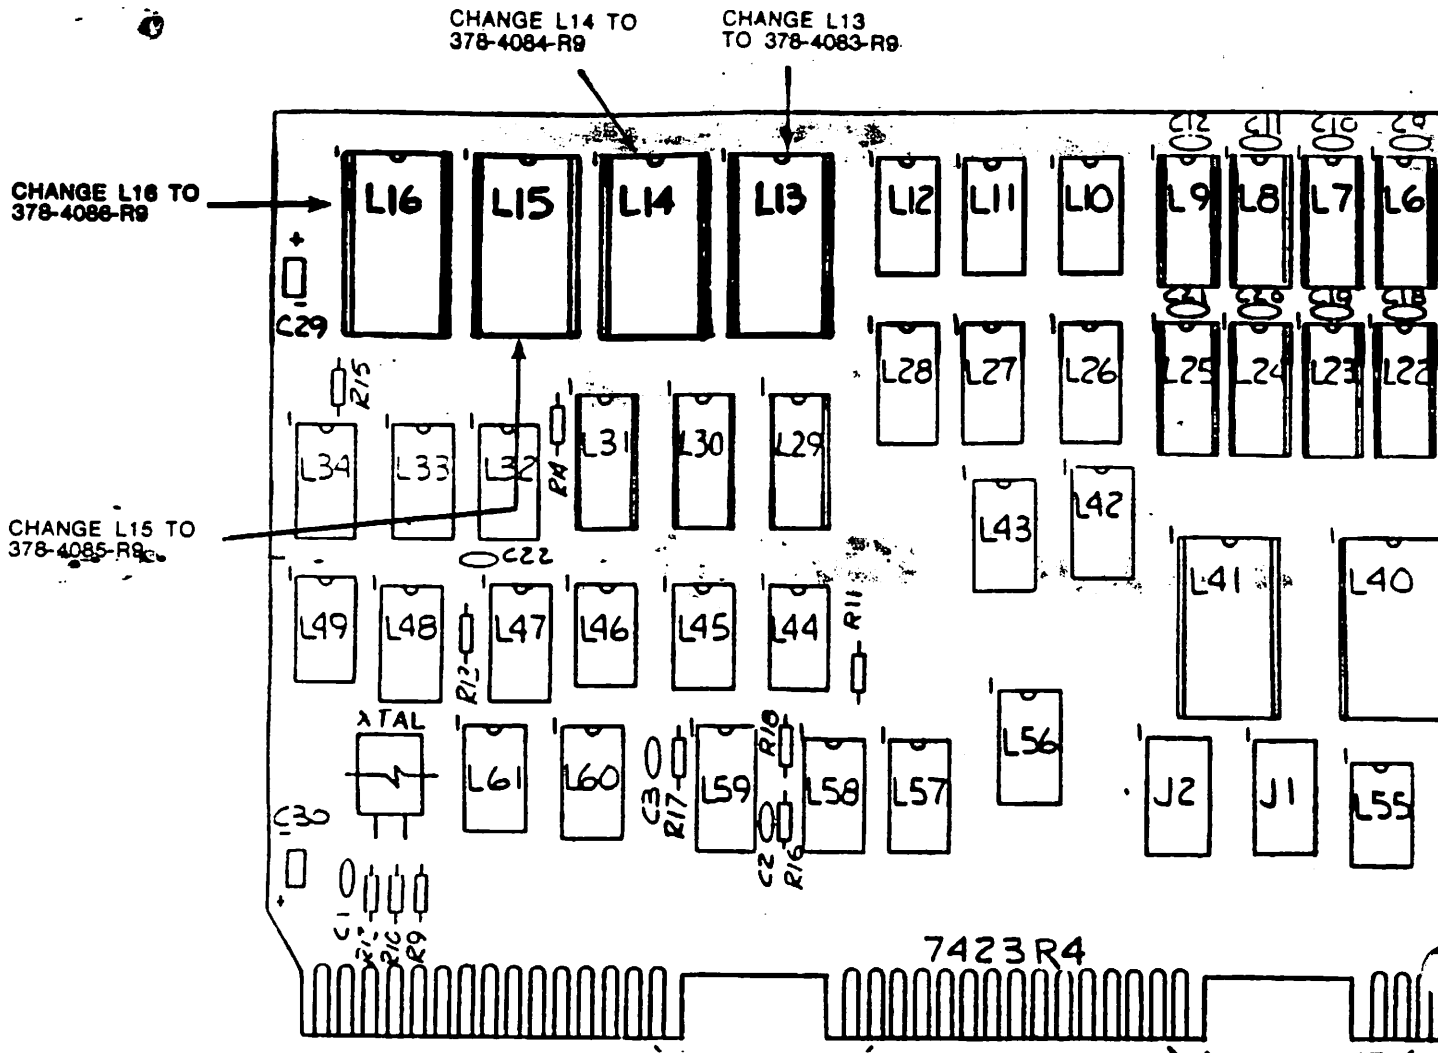

FIGURE 2: 210-7423-A EPROM LOCATIONS
- E. Refer to Figure 2. Change the four EPROM's on the 210-7423-A PCB as follows: